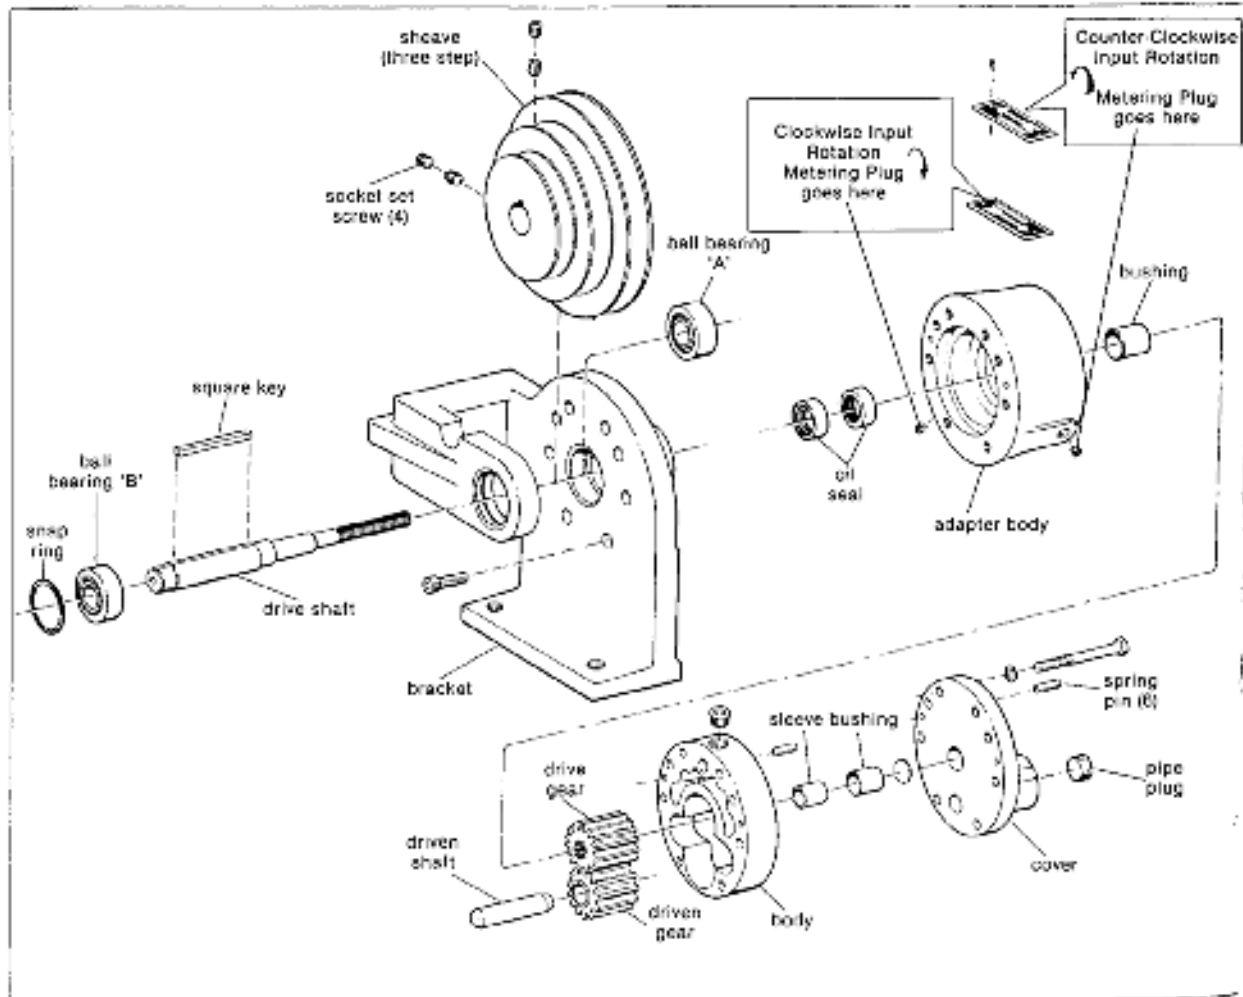

Fig. 19. Oil Pump; Belt Driven Single Style Shown
2. Install ball bearing 'A' (see fig. 19)
4. Apply very thin * coat of permatex 'super 300' or equivalent to mounting faces and following punch marks place adapter body with bushing installed on bracket. Secure with socket head capscrews (8).
5. Hold sheave and drive belt in position in bracket and with keyway aligned slide drive shaft and key into place, splined end first. Install socket set screws (4) in sheave.